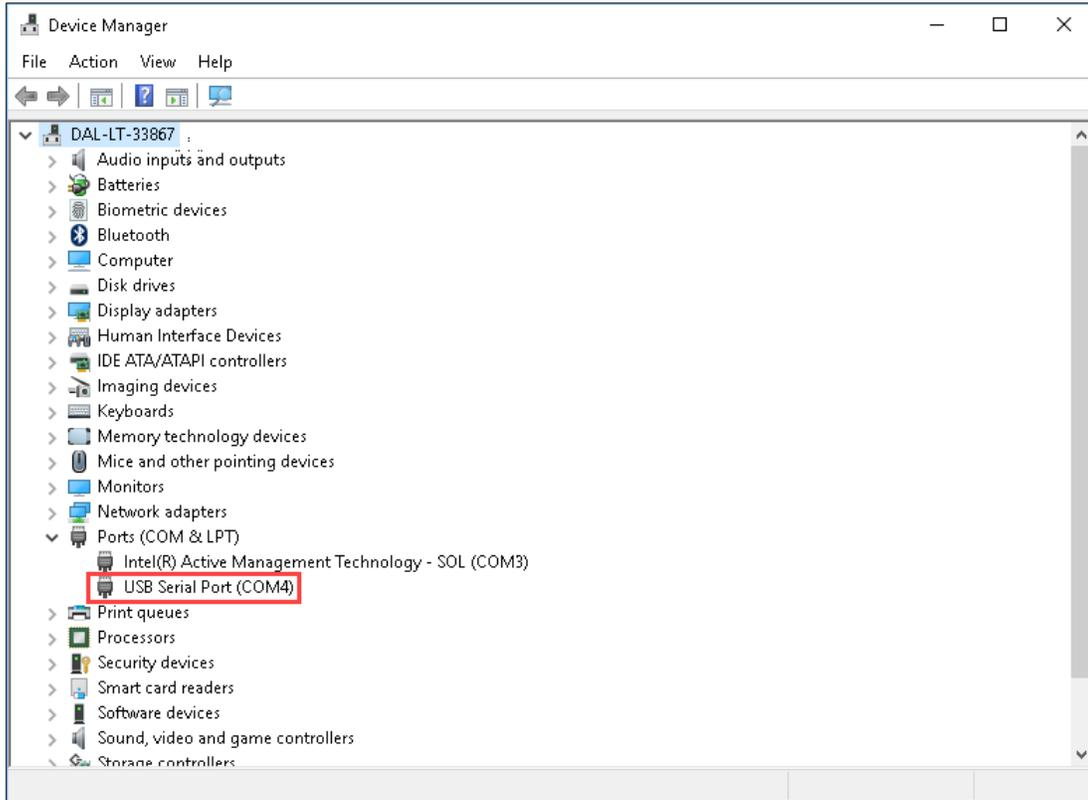

Figure 13. COM port created by the USB driver.
2. Expand **Ports (COM & LPT)**. The COM port that was created by the USB driver is shown in **Figure 13**. In this case, the COM serial port is 4.